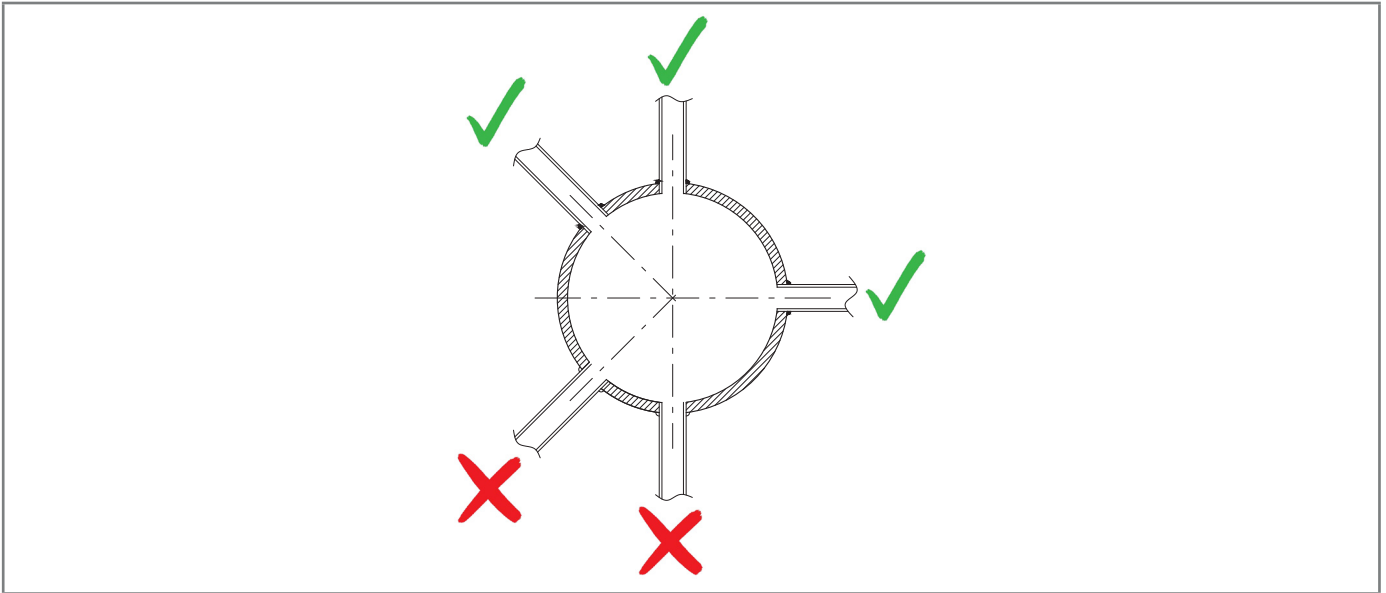

Fig. 6.22.
- the pneumatic connection couplings are always welded on the upper part or at maximum 90 degrees on the axis of the piping (refer to Fig. 6.22);